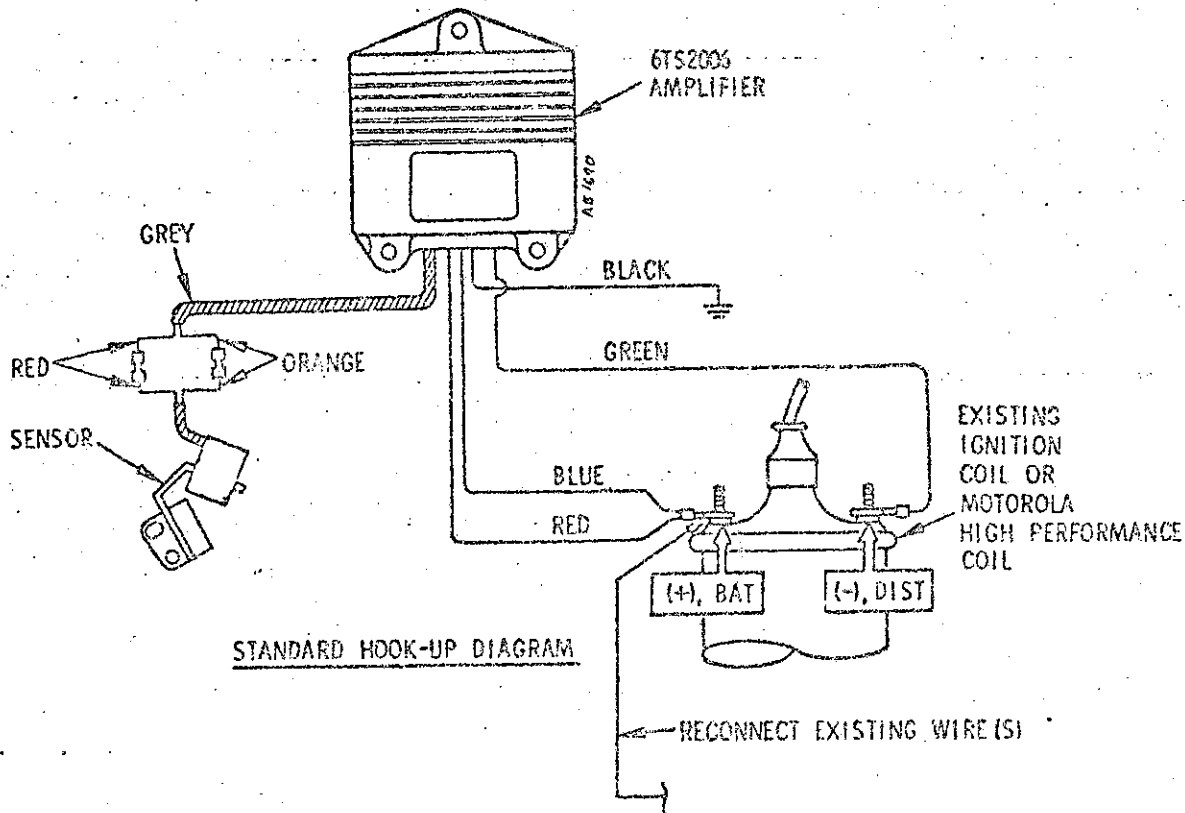

FIGURE 2
## WIRING INSTRUCTIONS (Figure 2)
1. Route wires from amplifier to the ignition coil and distributor as indicated by the hook-up diagram in Figure 2. Route wires along existing har-
3. Connect blue/red wire to positive terminal (marked either "+" or "BAT") of ignition coil. Connect green wire to negative terminal (marked either "-" or "DIST") of ignition coil. See Figure 2. For high performance applications, see Figure 3. A special high performance coil is available for either hook up. See your dealer for more information.